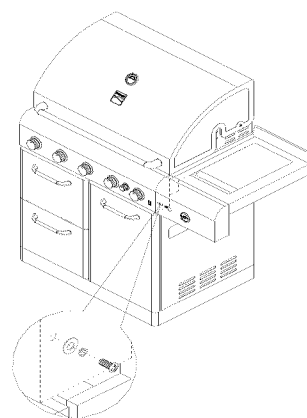

Figure 4
5. Hang side burner shelf on side panel by placing side burner slotted screw holes over the 2 screws and washers loosened in Step 3 (Fig. 4). Fix shelf to panel with the (2) Phillips head screws and lock washers removed in step 2 (Fig. 5, C).